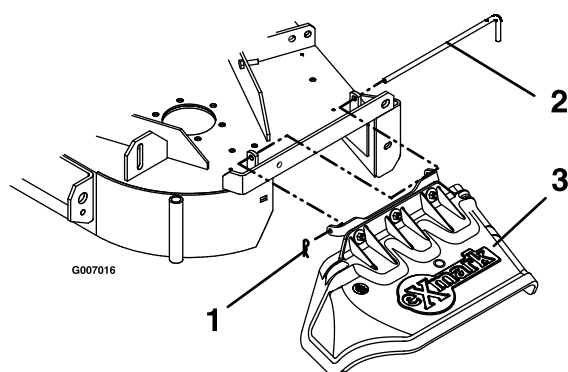

Figure 6
- Install the discharge chute using the chute pivot pin and hairpin (see Figure 6).